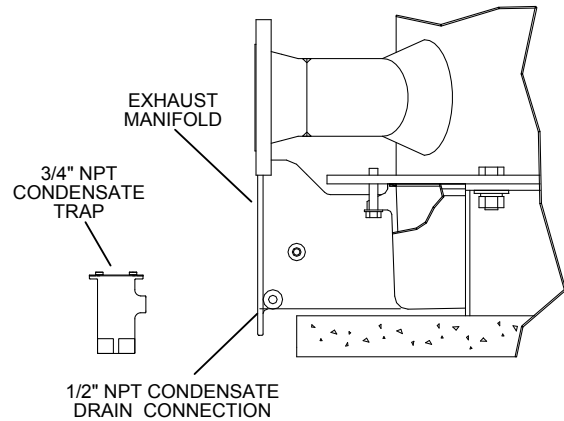

Figure 2.4
The Benchmark Boiler is designed to condense water vapor from the flue products. Therefore, the installation must have provisions for suitable drainage or collection. A 1/2" NPT drain connection is provided on the exhaust manifold (see Fig 2.4). A separate condensate drain trap (part no. 24060) is shipped loose and must be installed on the floor behind the unit. Connect the trap to the exhaust manifold as follows:
1. First, install a 1/2" NPT nipple in the condensate drain port (Fig. 2.4). Next, connect a 3/4-to 1/2" reducer to the 1/2" nipple.